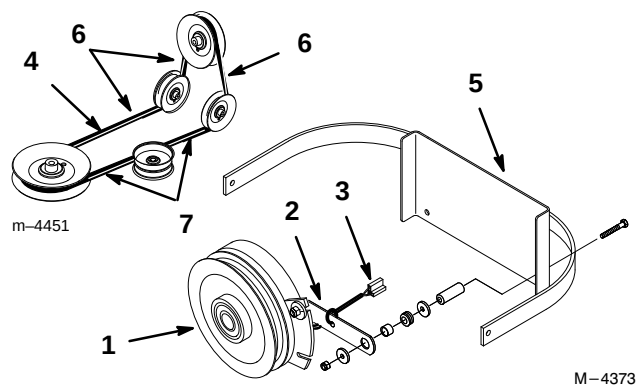

Figure 49
2. Remove the clutch retaining strap from machine frame and unplug clutch terminal from wire harness (Fig. 49).
3. Remove PTO drive belt from rear idler arm and front idler pulley assembly. Remove the PTO drive belt (Fig. 49).
IMPORTANT: Check the amount of twist in belt between pulleys. Make sure it is only what is specified in figure 49.
5. Install clutch retaining strap and plug clutch terminal into main wire harness (Fig. 49).